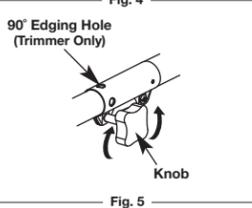

Fig. 5
1. Turn the knob counterclockwise to loosen (Fig. 5).
1. Turn knob counterclockwise to loosen (Fig. 5).
2. While firmly holding the add-on, push it straight into the EZ-Link™ coupler (Fig. 5).
3. Turn the knob clockwise to tighten (Fig. 5).
For decorative trimming/edging with the line cutting head, lock the release button into the 90° hole (Fig. 5).